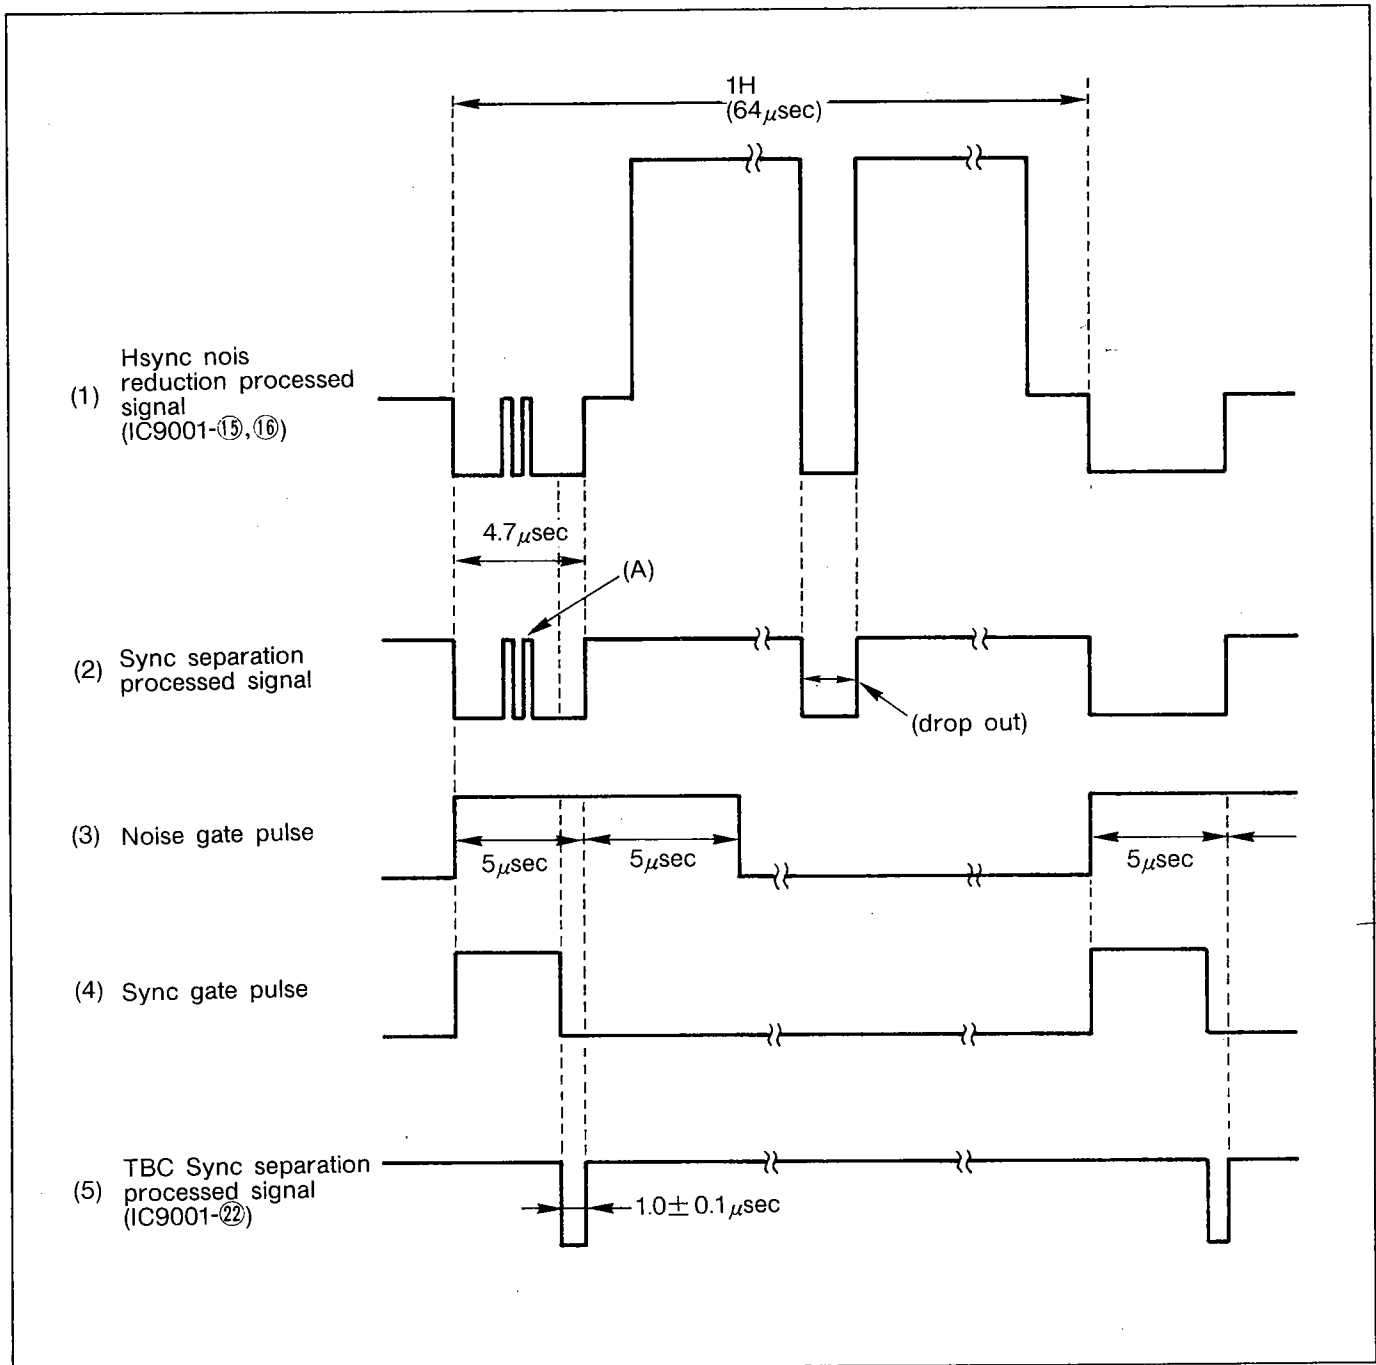

Figure T6 The Signal Process of T.B.C. Sync Generator Circuit
Waveform for the various stages of the Sync Generator are as shown in Figure T6.
The other input from pin16 is also applied via the 6dB Amp, Pedestal Clamp and Sync Separator to a Noise Gate. If the luminance signal Figure T6-(1) with noise A/B is applied to pins 15/16 circuit, mis-operation would result, so the noise is removed by the Sync and Noise Gate. Noise during H sync (Figure T6-(2)-(A)) is removed by Noise Gate pulse. (Figure T6-(3)): The Noise Gate width can be adjusted with VR9002.
Noise-(B): Figure T6-(2)-(B) during visible period is removed by sync gate pulse (4). The centre of the sync gate pulse is the same phase as the rising edge of H sync and therefore, the output of this circuit is shown as waveform (5).